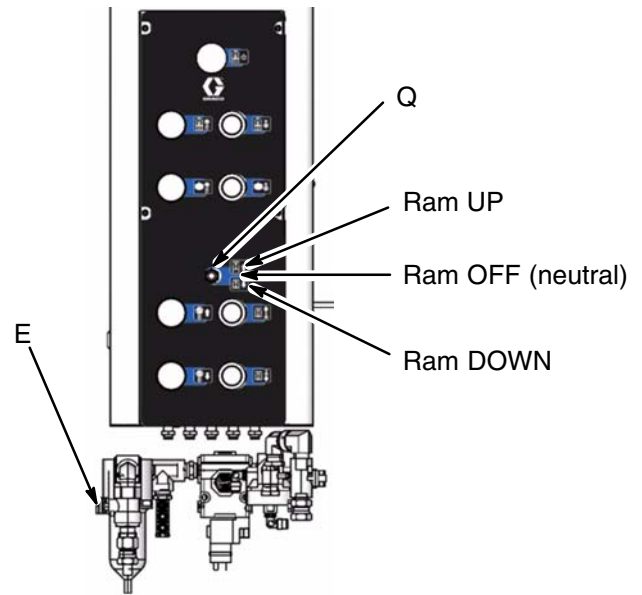

Fig. 20
2. Using the ram hand valve lever on the air control [(Q) in Fig. 20], move the ram to the DOWN position.
6. Close the system master air valve (C) (Fig. 20).